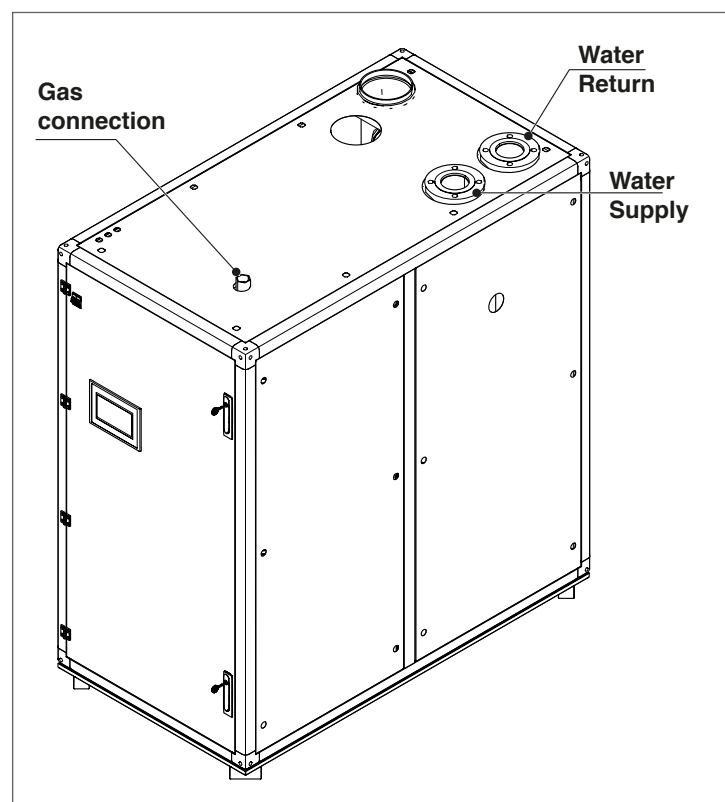

Fig. 9 Array AR 1000, AR 1500 and AR 2000 Connections
The **Array** Boiler utilizes 3" flanges for models **AR 1000** and **AR 1500** and 4" flanges for model **AR 2000** for the water system supply and return piping connections. The physical location of the supply and return piping connections is on the top of the unit as shown in Fig. 9.
**Array AR 1000, AR 1500 and AR 2000** boilers contain a 1.5 inch NPT gas inlet connection on the top of the unit as shown in Fig. 9.